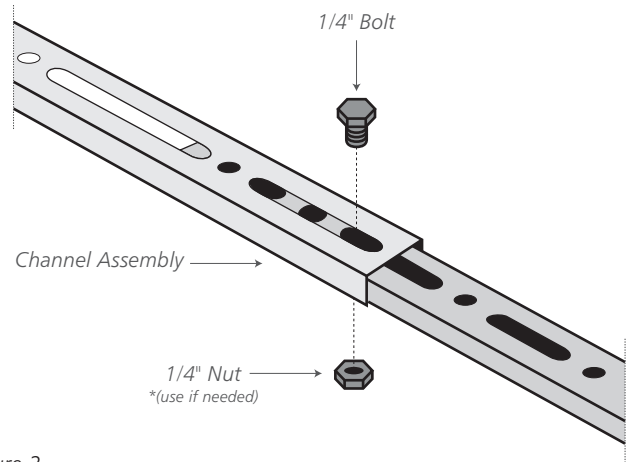

Figure 2
3. Slide two channel pieces together (one inside the other) and open them up to set tight against the walls of the cabinet. Place a 1/4" bolt at each end at the farthest point possible where the bolt goes through the top half and into the threaded lower channel. For the longest extensions, you may want to use one of the bolts with a nut through both slots in the pieces to leave room for the leveling bolt. (See Figure 2)